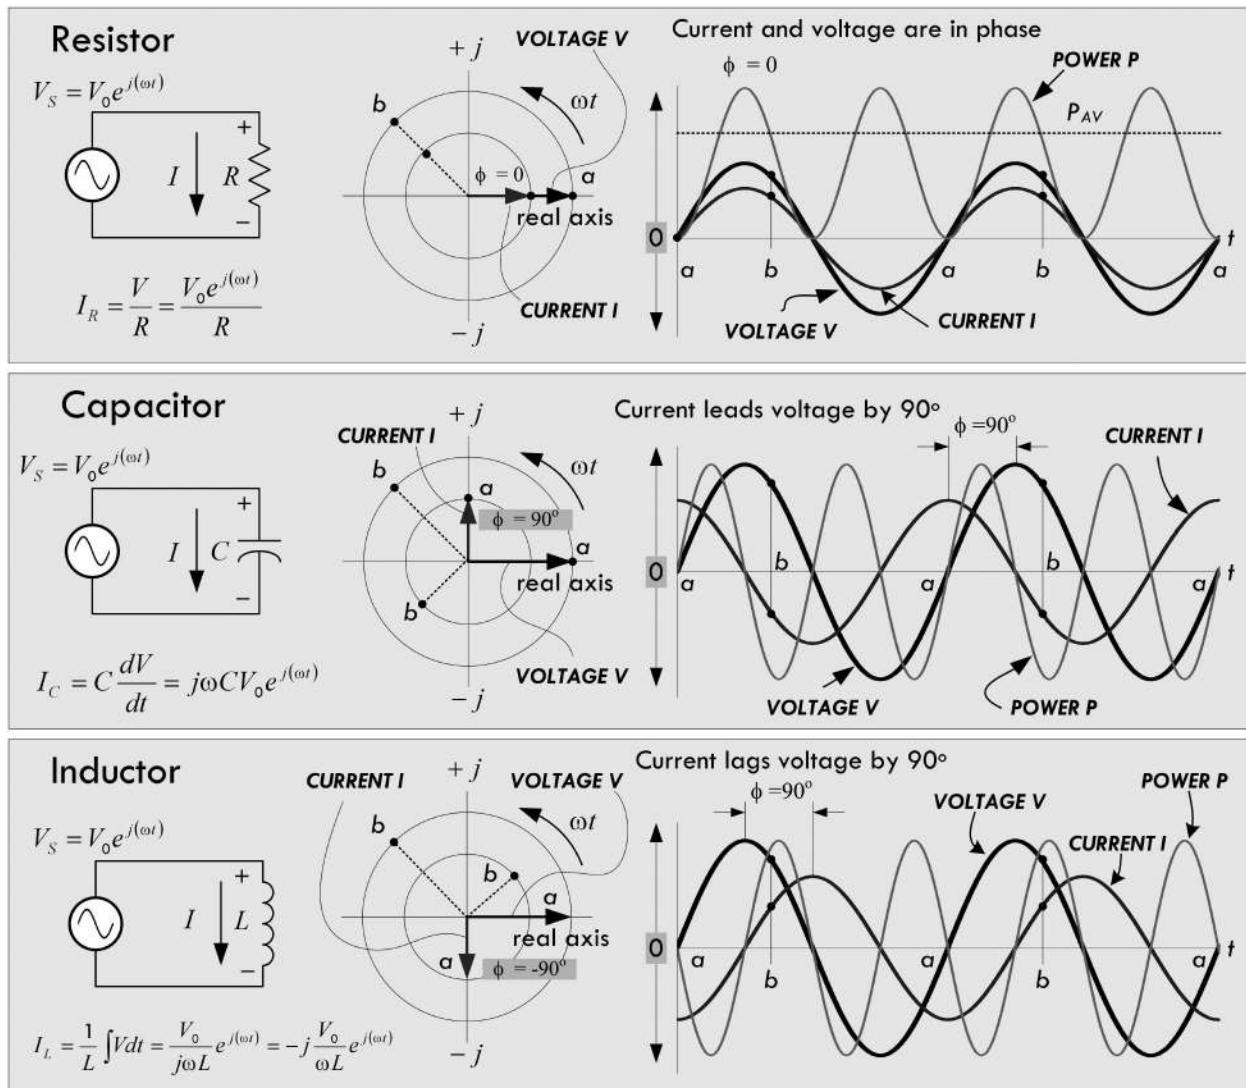

FIGURE 2.160
Now that you have an expression for the voltage in complex form, you can place, say, a resistor, a capacitor, or an inductor across the source and come up with a complex expression for the current through each component. To find the current through a resistor in complex form, you simply plug  $V_0 e^{j(\omega t)}$  into  $V$  in  $I = V/R$ . To find the capacitor current, you plug  $V_0 e^{j(\omega t)}$  into  $I = C dV/dt$ . Finally, to find the inductor current, you plug  $V_0 e^{j(\omega t)}$  into  $I = 1/L \int V dt$ . The results are shown in Fig. 2.160.
*Resistor:* The current and voltage are in phase,  $\phi = 0^\circ$ , as shown in the graph in Fig. 2.160. This behavior can also be modeled within the complex plane, where the voltage and current vectors are at the same angle with respect to each other, both of which rotate around counterclockwise at an angular frequency  $\omega = 2\pi f$ .